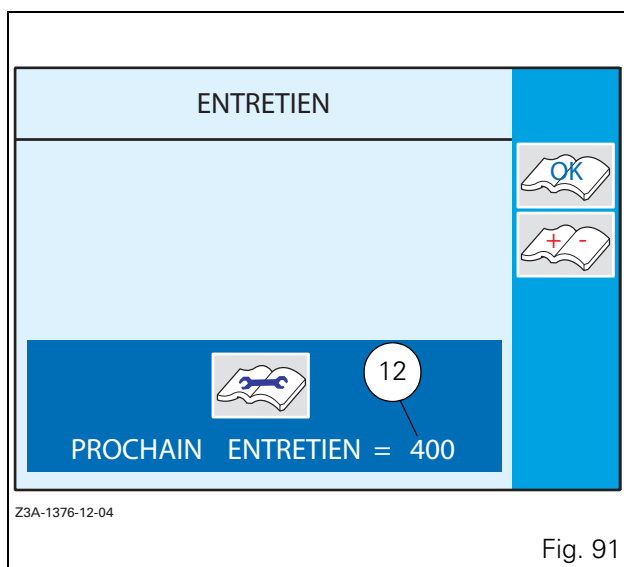

Fig. 91
- Press the key «₂. Regardless of the number of tractor hours, the number of hours to the next servicing is 400 hours (12 Fig. 91).